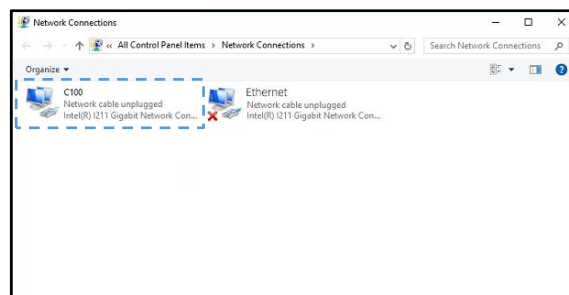

Figure 5-4 Network Connection
Step 3: Select the connected network in the "Network Connection" window (Figure 5-4);